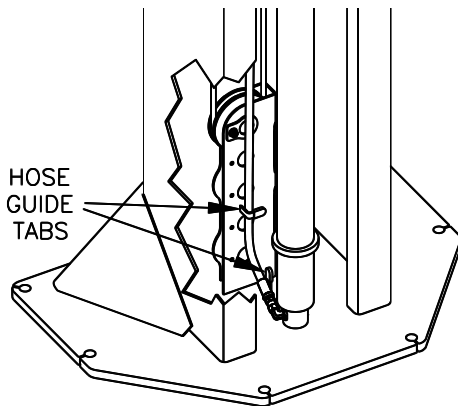

Fig. 17 - Hose Connection
- 44) Each column hose should connect to its cylinder with a 90 degree elbow rotated up from horizontal and be routed thru the Hose Guide Tabs as shown in **Fig. 17**.